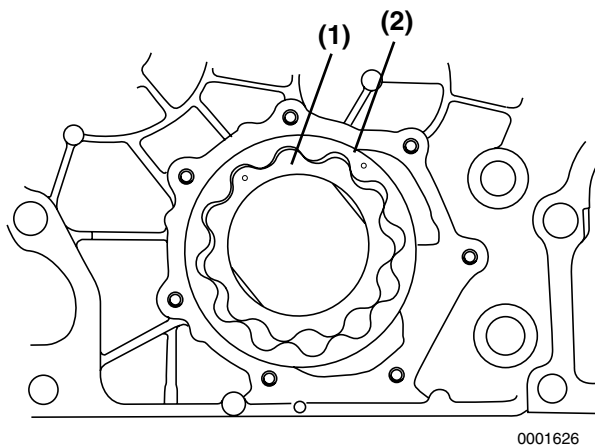

Figure 9-6
5. Remove the outer rotor (**Figure 9-6, (2)**) and inner rotor (**Figure 9-6, (1)**) from the gear case cover.